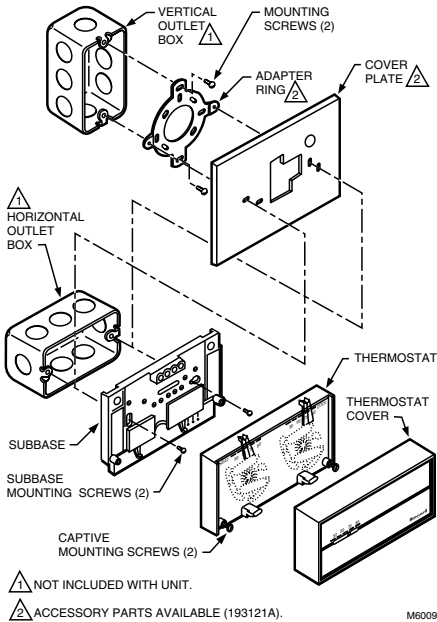

Fig. 1. Installation of subbases and thermostat on outlet box.
- 3 If mounting the subbase on a vertical outlet box, install adapter ring with the two screws provided in the assembly. See Fig. 1.
- 5 Note the tabs along the top inside edge of the thermostat base. The tabs fit into the subbase notches. Mount the thermostat on the subbase and tighten the captive mounting screws. See Fig. 1. Do not overtighten captive mounting screws. This can damage the threads in the subbase.